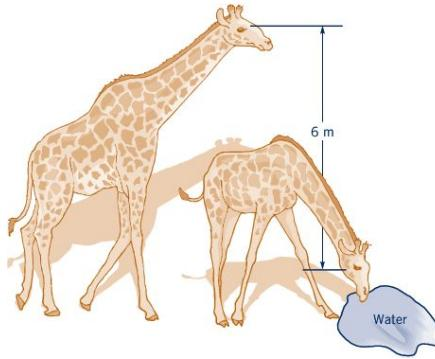

Figure 3: see problem 2.1
**Problem: (a)** Determine the change in hydrostatic pressure in a giraffe's head as it lowers its head from eating leaves 6 m above the ground to getting a drink of water at ground level (Figure 3). Assume that the absolute pressure in the giraffe's heart does not change, and the specific gravity of blood is  $SG = 1$ .